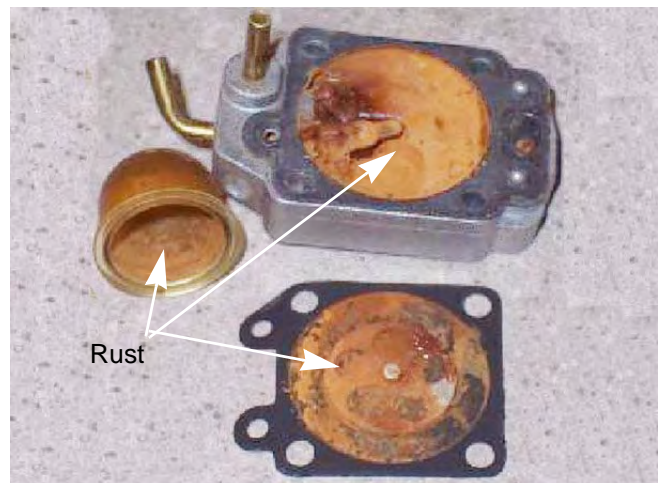

Figure 5.20
**NOTE:** The alcohol in gasoline is hygroscopic, meaning that it readily absorbs moisture. The moisture that is trapped in the alcohol leads to corrosion of metal parts. See Figure 5.20.